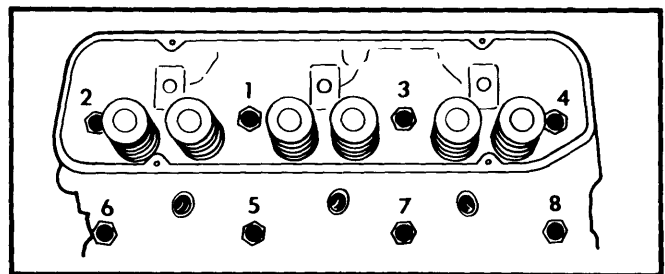

Fig. 3 Cylinder Head Tightening Sequence V6
2) Position head on block, clean and lubricate all head bolts on 350" engines. Use a heavy duty sealer on 231" & 252" engines. Install head bolts and tighten in 3 steps in sequence. See Fig. 3 or 4. To complete installation, reverse removal procedure.